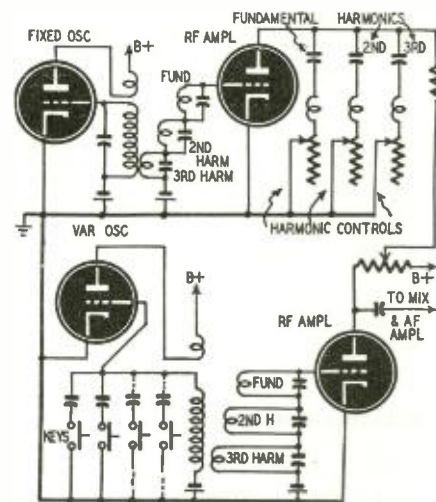

Fig. 4—The heterodyne tone generator shown in this diagram produces various tone qualities by controlling the proportions of harmonics in the output.
W. L. Carlson is the holder of a 1931 patent (No. 1,823,724) disclosing an interesting heterodyne instrument which can provide various tone qualities by harmonic synthesis—that is, by adding harmonics to the fundamental tones in calculated proportions as is done in the Hammond Organ. The patent was assigned to General Electric but was never, as far as the writer knows, used in a commercial instrument. Fig. 4 shows how the instrument works.